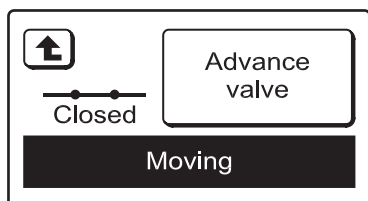

FIG. 31
3. Press the RECHARGE NOW button. The recharge begins and display will change to show a recharge status screen, like the one in Figure 31.